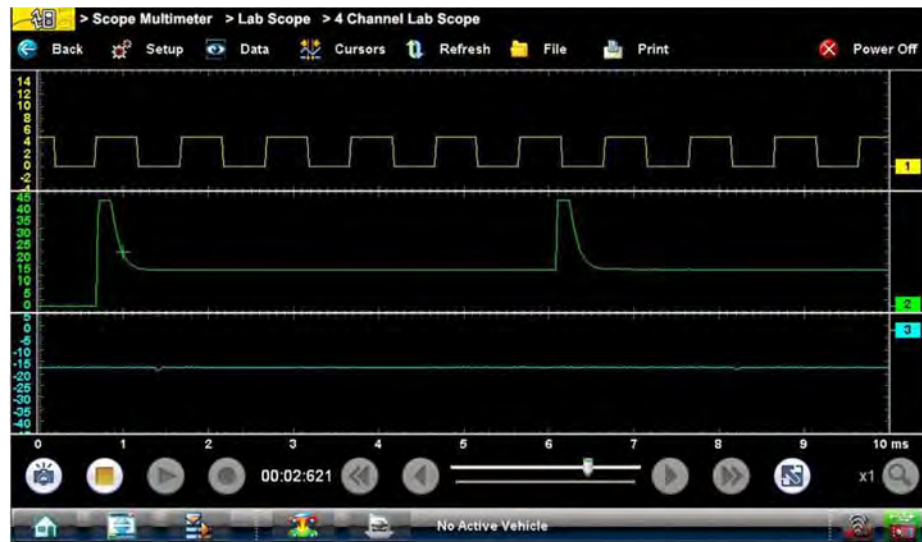

Figure 8-25 Sample 3 Windows display
- **3 windows**—shows three traces, one below another, on the same screen (Figure 8-25).